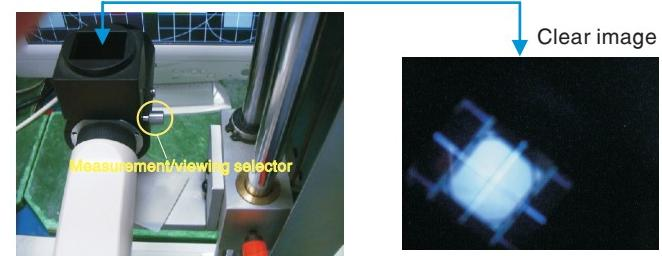

Fig. 4
- Move the "Lens barrel" forward or backward to get clear image as shown in Fig. 4